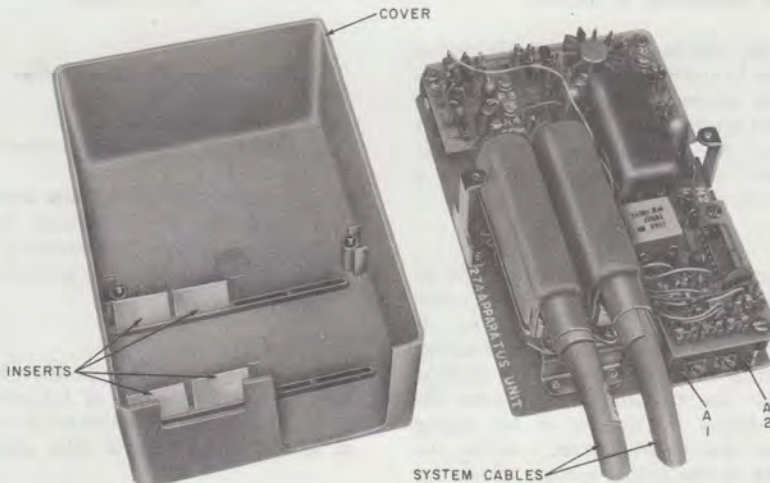
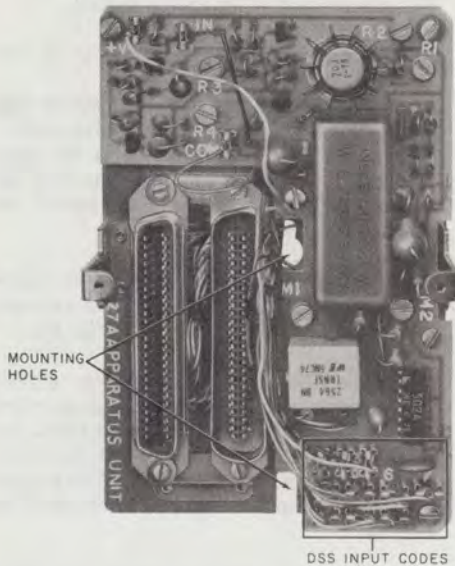

Fig. 20—⚡27A Apparatus Unit With L-769856 Cover⚡
Fig. 21—27A Apparatus Unit
- (1) Remove the cover and mount the base pan assembly (Fig. 20 and 21) in the desired location (use appropriate fasteners per BSP 080-720-103).
- (2) If background music is to be provided, install the 33A voice coupler per 3.14(b).
- (2) If music is provided, connect screw terminals 5 and 6 of the 33A voice coupler to screw terminals M1 and M2 (Fig. 21).
- (3) If the customer's paging system requires a contact closure when the paging occurs, connect the coil circuit of a KS-16626 L12 relay set per BSP 463-120-100 to screw terminals R1 and R2 of the 27A. Also connect a shorting strap between screw terminals R3 and R4.
- (4) Insert system cable or cables (Fig. 20).
- (5) Position inserts (Fig. 20) inside cover to hold cables securely when cover is replaced.